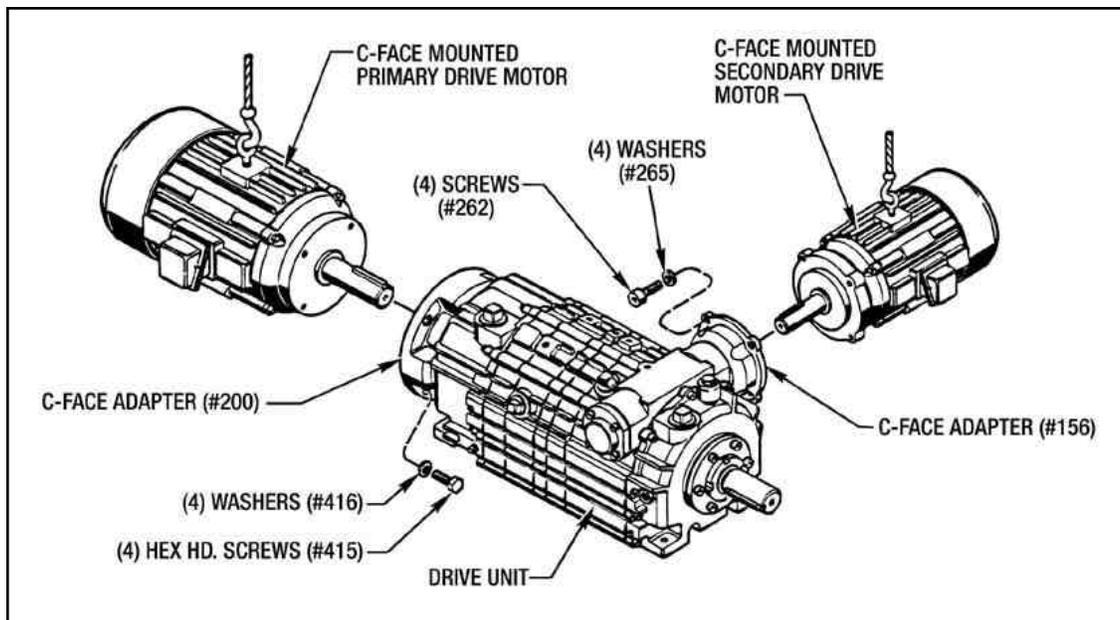

Figure 9.18 - Attaching C-Face Motors
1. Attach an appropriate soft sling or lifting hook to the drive motors and, with care, slide the motor shafts into the Quill Input Shafts, making sure the keys on the motor shafts aligns with the keways in the input shafts. (See Figure 9.18)
2. Attach the Primary Drive Motor with (4) Screws (#216) and (4) Lockwashers (#202). Use (4) Screws (#262) and (4) Lockwashers (#265) for the Secondary Drive Motor. (See Figure 9.18).